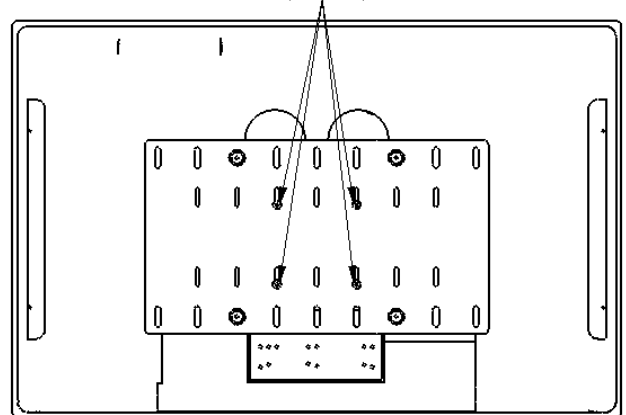

Figure 5. Display with 100mm x 100mm Hole Pattern
2. Attach the MSB-V (10) using the hole-pattern on the back of your display as shown in Figure 5.